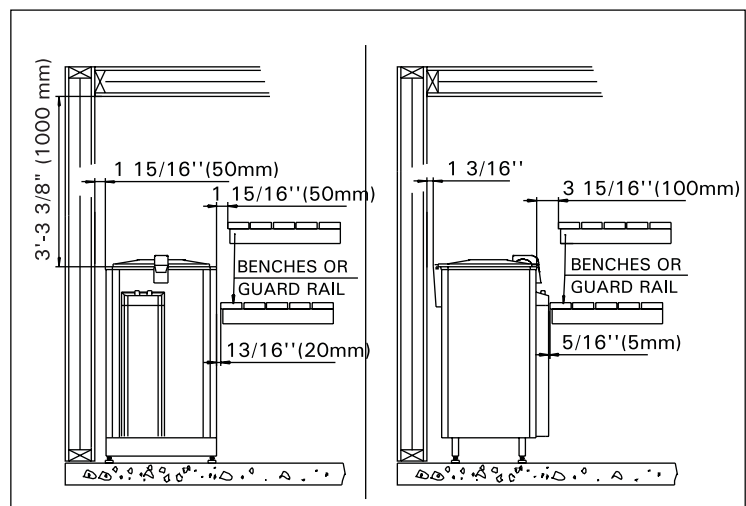

Figure 5. Min. distances to combustible materials
- The location of the heater fulfils the minimum requirements concerning safety distances given in figure 5.
If a safety railing is built around the heater, the minimum distances given in figure 5 must be observed.